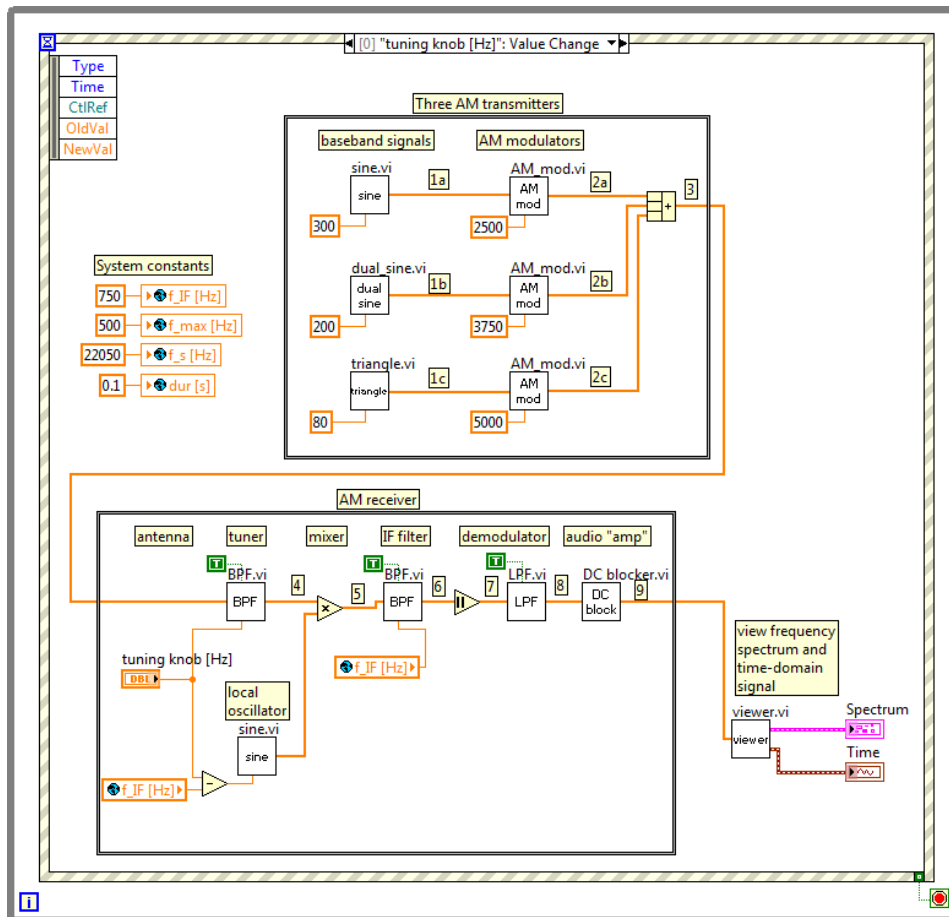

Figure 8.1: Top-level VI block diagram of the AM radio simulator.
- ▶ Figure 8.1 on the next page shows the block diagram of the LabVIEW AM radio simulator that you will construct in this lab project. Compare the section labeled "Three AM transmitters" to Figures 6-58 and 6-64(b) in your text; this section of the LabVIEW VI models three AM transmitters operating at three distinct carrier frequencies. Also compare the section labeled "AM receiver" to Figure 6-63 in your text. The LabVIEW VI directly implements the block diagram of the superheterodyne receiver pictured in your text.
- ▶ Place four global variables on your radio simulator VI as in the “System Constants” area of Figure 8.1 on the preceding page. Create constants to document the values of the global variables.
► Adjust the three baseband signal frequencies to match those shown on the block diagram of Figure 8.1 on page 71.
► Adjust the limits on your tuning knob to select among only the carrier frequencies pictured on the diagram of Figure 8.1 on page 71.
► Create the subVI `DC_blocker.vi` to remove the DC component (average value) of the demodulator output. See the built-in subVI `AC & DC Estimator` in the signal processing subpalette that calculates the average (DC) value of an array.
- ₉ Collect a screen shot of your radio simulator front panel at each labeled signal point in Figure 8.1 on page 71, i.e., 1c, 2c, and 3 to 9.